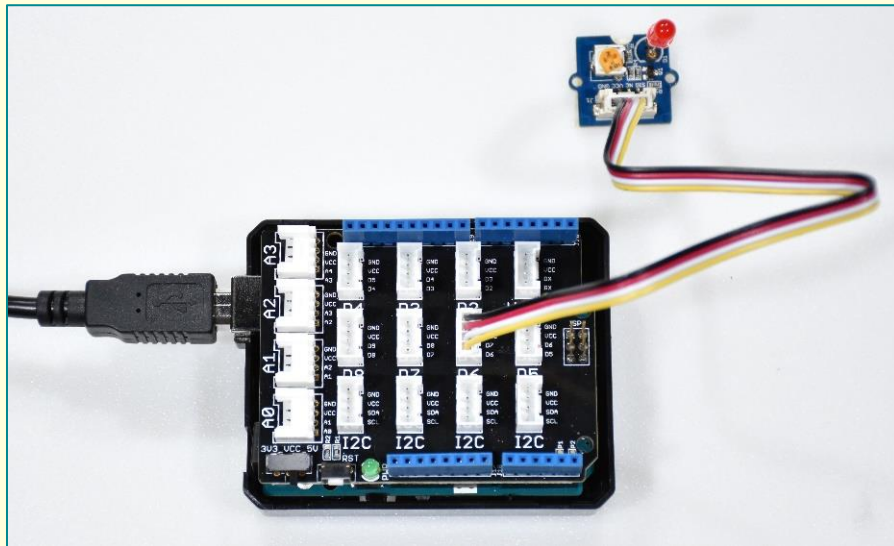

Figure 3-11. LED module connected to the PWM D6 socket.
1. Connect the Grove LED module to socket D6 with a Grove cable (see Figure 3-11).